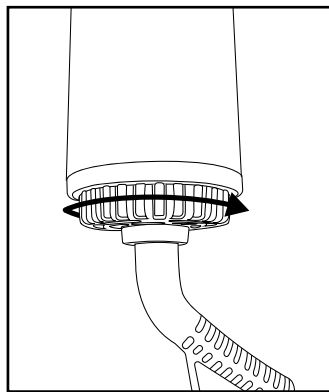
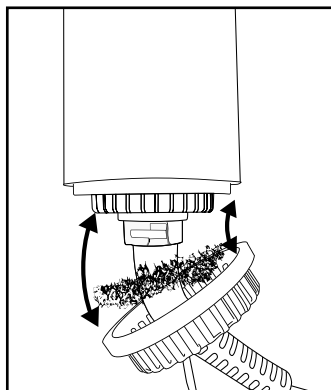

Fig. 3
Fig. 4
- Remove hair from the attachments ⑧ – ⑪ with your fingers. Place the attachments ⑧ – ⑪ in lukewarm water to clean them. You can use mild detergents, but make sure to rinse it off thoroughly afterwards with water. Allow the attachments ⑧ – ⑪ to dry completely before re-attaching them to the appliance.
- Make sure that the air intake grille ④ is free of hair and fluff. Clean it with the help of a dry brush.
- Clean the filter behind the air intake grille ④ at regular intervals, at the latest when dirt is visible. To do this, remove the air intake grille ④ (see figs. 3 and 4) by turning it until it stops moving and then pulling it down (if necessary, turn it slightly back and forth at the same time). Remove lint and dirt from the filter with your fingers and a soft brush if necessary. Press the filter back into the basket of the air intake grille ④ so that you can then put the air intake grille ④ back on. Slide the air intake grille ④ onto the receptacle on the appliance and screw it tight. Note the two small recesses on the base of the power cable ⑥ (see fig. 4), into which the matching counterparts on the inside of the opening in the air intake grille ④ must be pushed.